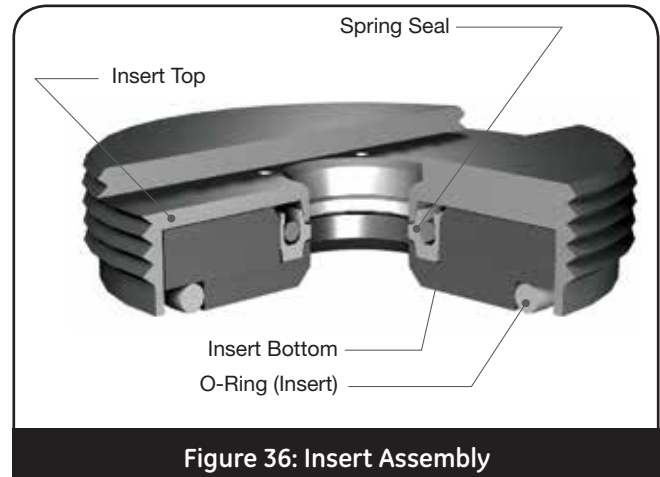

Figure 36: Insert Assembly
- e. Final Insert Assembly is shown in Figure 36.